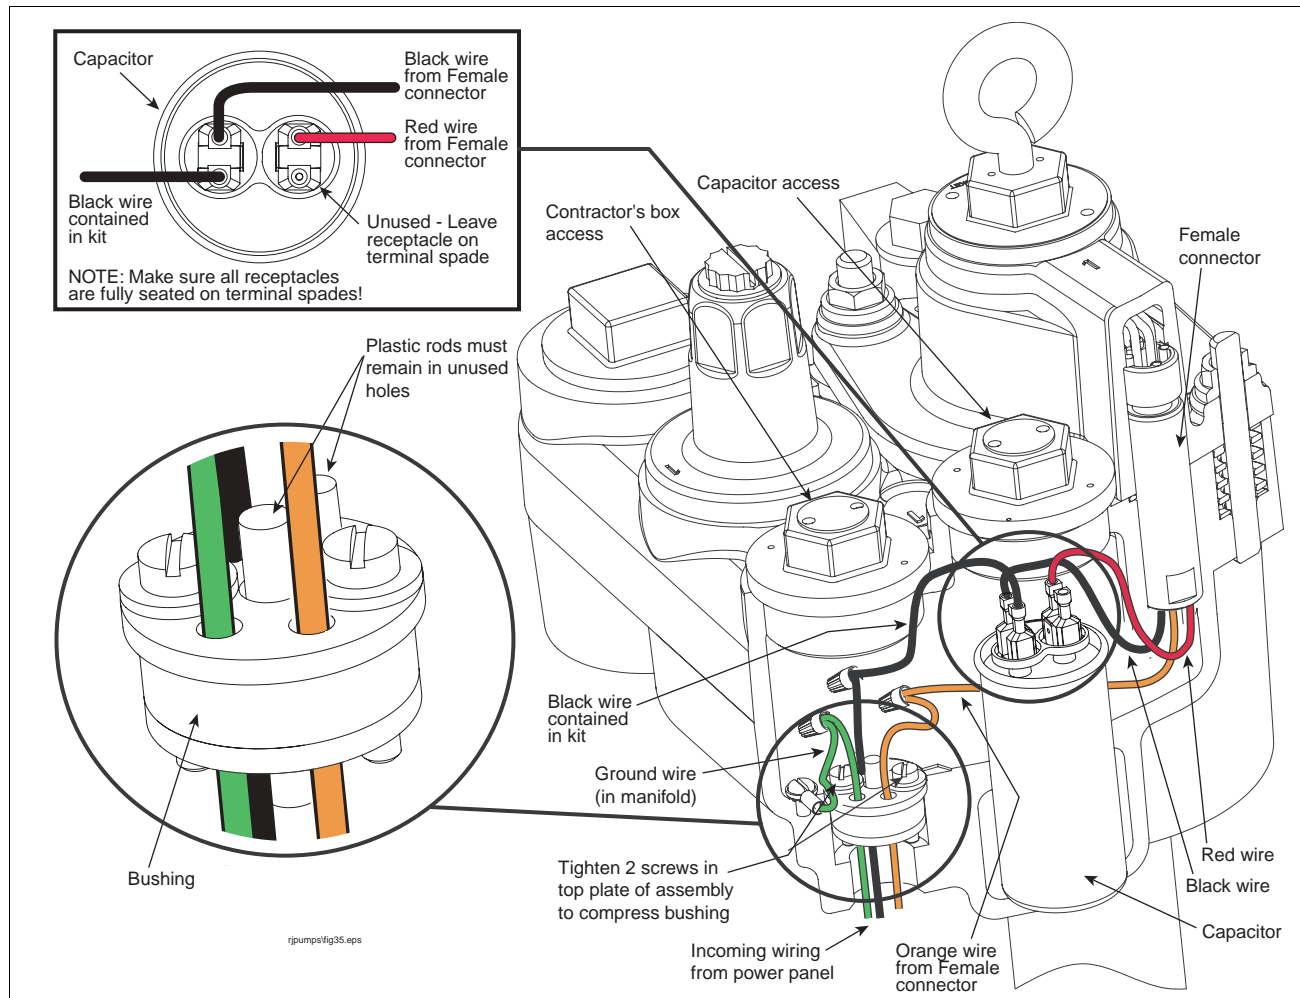
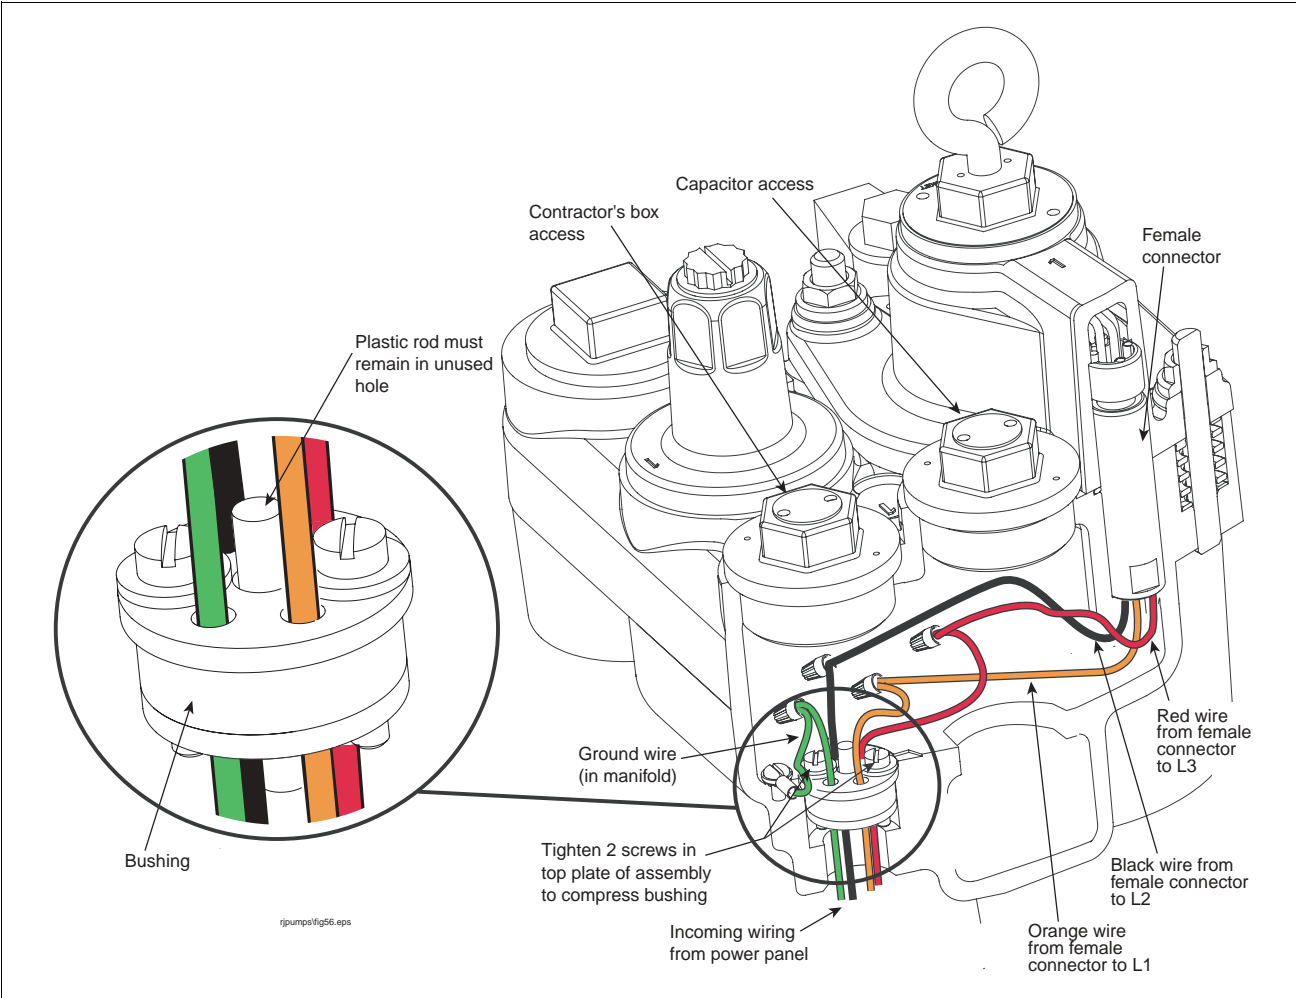

Figure 15. Power wiring enters through compression bushing - single phase example shown
Figure 17. Power wiring enters through compression bushing - three phase example shown
1. Connect electrical conduit approved fittings to power wiring entry at base of manifold's contractors box (see cutaway example in Figure 15 for single phase power wiring or Figure 17 for three phase power wiring).
2. Loosen the two screws in the compression bushing just enough so you can remove the bushing from its socket in the bottom of the manifold's contractor box (see Figure 15). Notice that the top plate of the bushing assembly (facing into the manifold) has a larger diameter than the bottom plate, and that there are two open holes and three holes with plastic rod inserts. The plastic inserts seal the bushing and must be left in any unused hole. For example, if you are bringing three wires from the power panel, use the two empty holes and remove and discard one of the two smaller diameter plastic inserts for the third wire. Push each of the incoming power wires through the empty holes in the bushing assembly. Slide the bushing assembly down over the power wires until it seats in its socket in the base of the manifold's contractor box and then tighten the two screws in bushing assembly securely to compress the bushing and seal the wiring entry.